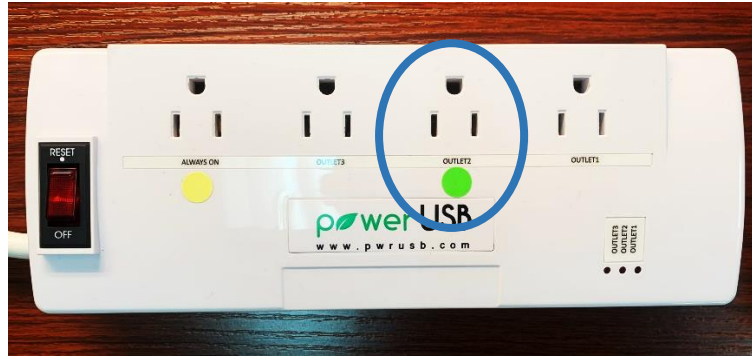

Figure 1: Smart power strip outlet positions
2. Locate the smart power strip and plug the laptop into the “Always On” position (circled in blue) and the instrument into the Outlet position labeled with the green dot sticker, as shown in Figure 1: